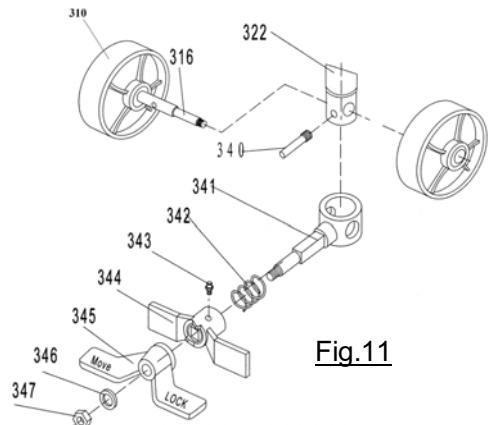

Fig.11
To apply the brake step on the "LOCK" side of the Brake plate (fig. 11, pos.345) until its angle is 45°. To release the brake step on the "MOVE" side of the Brake plate (fig. 11, pos.345) until it is in horizontal position.